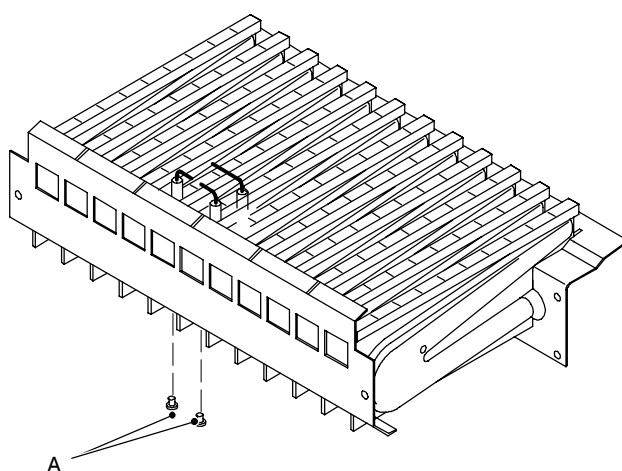

Fig. 83
- 5 Unscrew the screws A (Fig. 83) which hold the electrodes to the burner.